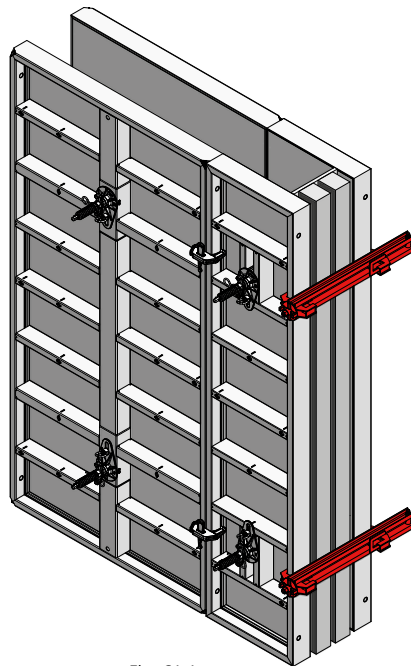

Fig. 61.1
- It is attached at the height of the tie holes (Fig. 61.1).